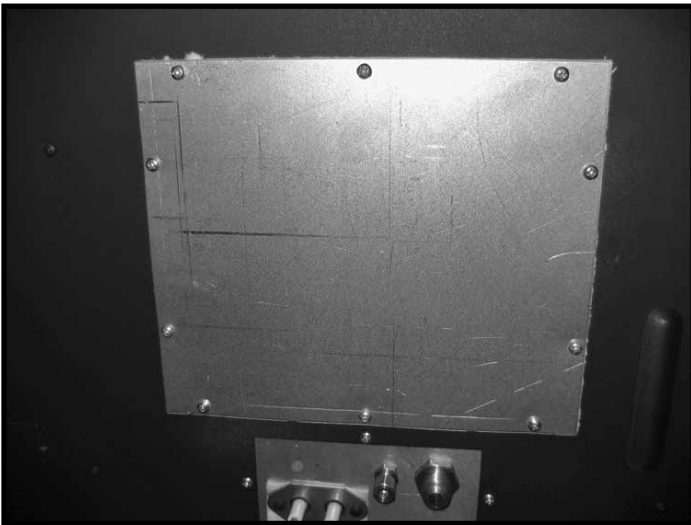

Figure 3: Access cover to valve control center.
2. Remove the 10 screws securing the access cover for the valve control center (Figure 3).
9. Once the gas and electrical lines are connected to the bulkhead and the interface module, reinstall the valve control center's access cover (Figure 3 on page 3). The panels are now ready to be installed.